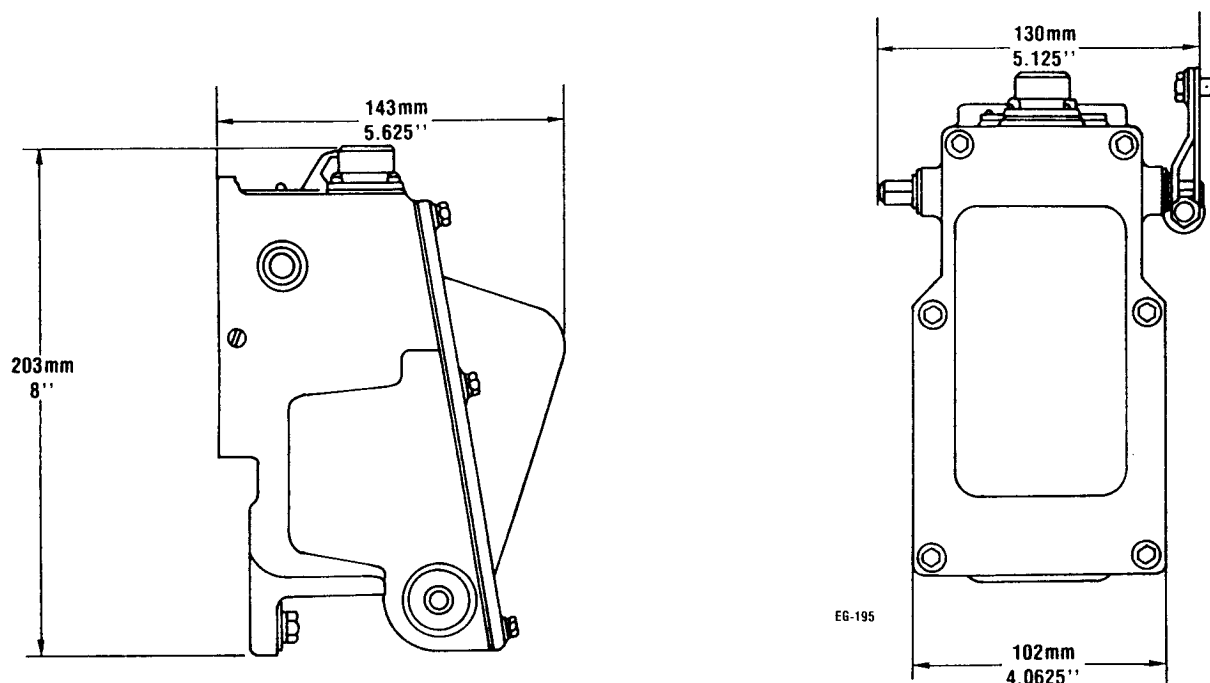

Figure 1. AGB 270/280 actuator dimensions
- Dimensions Metric design to match fuel pump (See Figure 1)